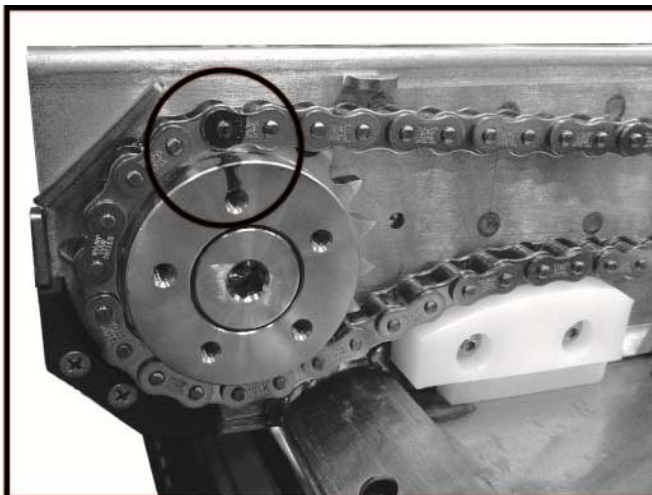

FIGURE 2-14 IDENTIFY LINK ALIGNMENT ON CHAIN (RH SIDE SHOWN)
- f. Refer to **Figure 2-14**. Locate and mark link alignment on sprocket.